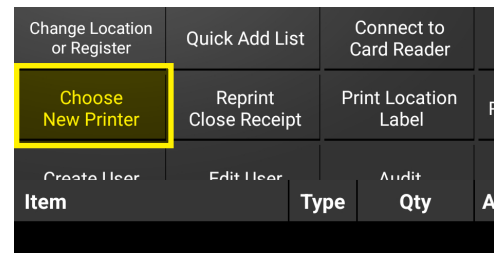

Figure 34
4. Tap Choose New Printer (Figure 34).